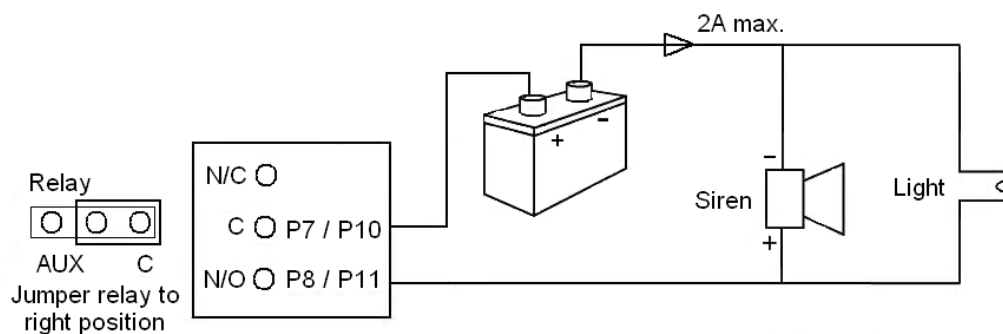

Figure 4: Alternative connection for high current alarm strobe/light and siren
- If the light fails to operate correctly, then the auxiliary DC current limit may have been reached. Reconfigure the wiring to operate directly from the battery as shown in Figure 4.